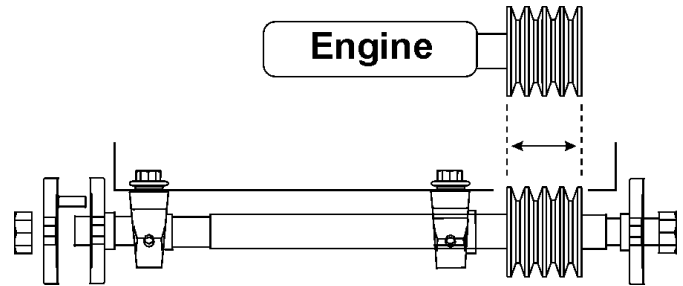
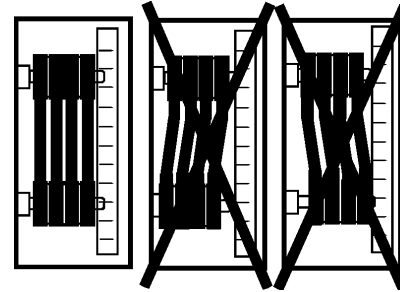

Figure 55. Pulley Alignment
Figure 56. V-Belt Alignment
6. Reorient the new pulley on the shaft, and ensure precise pulley alignment by utilizing an accurate straight edge (see Figure 55 and Figure 56).